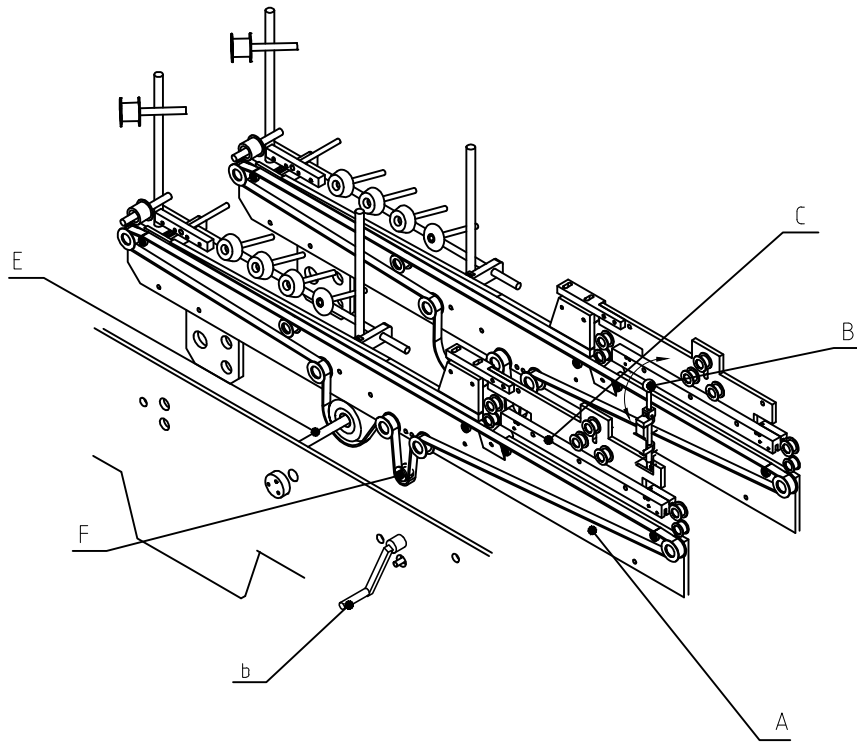

Fig 4-1
- ① Press down the jiggle bar (B) to raise subassemblies of folding unit, separate the folding base by jiggle bar b, see Fig.4-1.